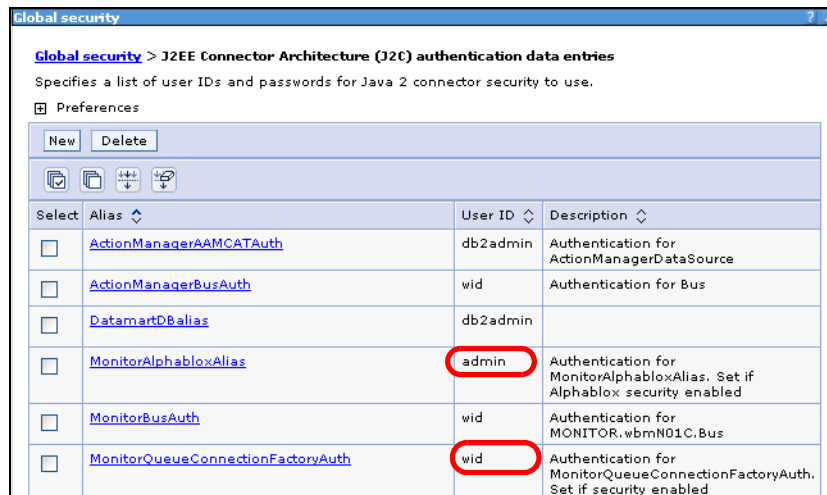

Figure B-20 Setting J2C Authentication Aliases
- ▶ Set the MonitorQueueConnectionFactoryAuth user ID. This value has to be set to the use ID and password you specified as the Monitor administrative user in “Monitor Server user” on page 626. In our case that was wid/wid (Figure B-20).